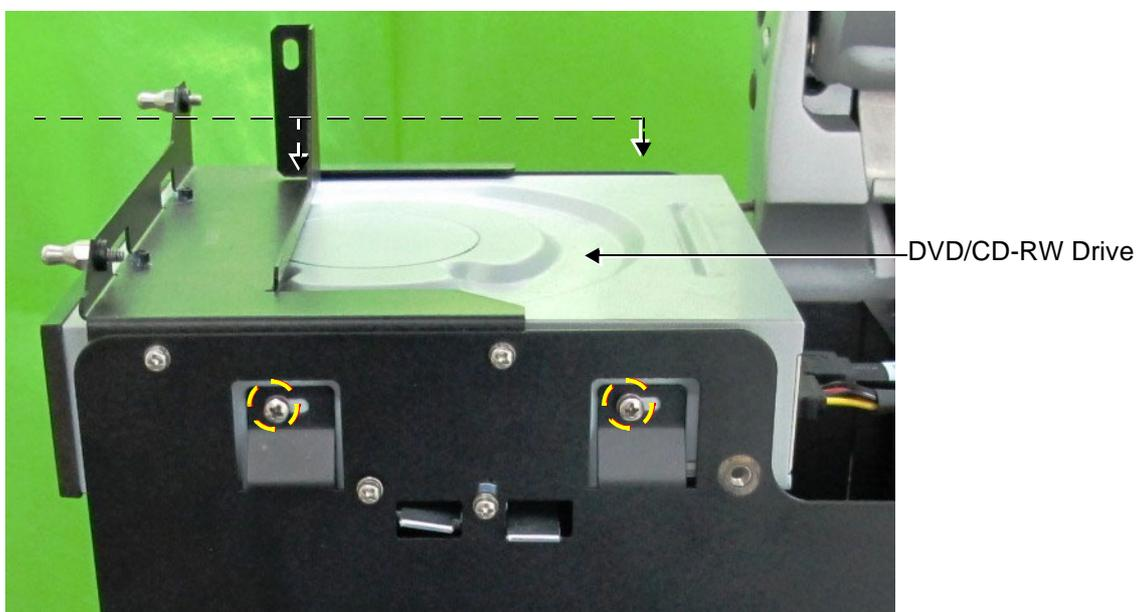

Figure 8-279 Screws Securing DVD/CD-RW Drive in Position
2.) Loosen and remove the two Phillips screws on either side of the securing panel (that holds the DVD /CD-RW Drive in position), as indicated in Figure 8-279.
- 3.) Disconnect the SATA DVD cable and the SATA DVD power cable from the rear of the DVD /CD-RW Drive, as indicated in Figure 8-279.